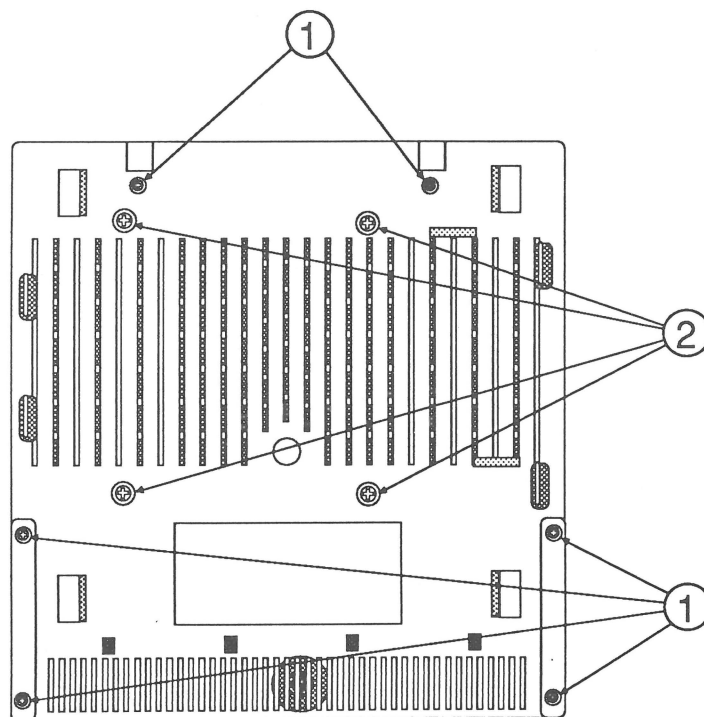

FIGURE 1
3. Remove the six Phillips screws (Figure 1, #1) that secure the top case to the bottom case.
4. **If you are replacing the disk drive, logic board, or eject button,** remove the four Phillips screws (Figure 1, #2) that secure the disk drive to the bottom case.